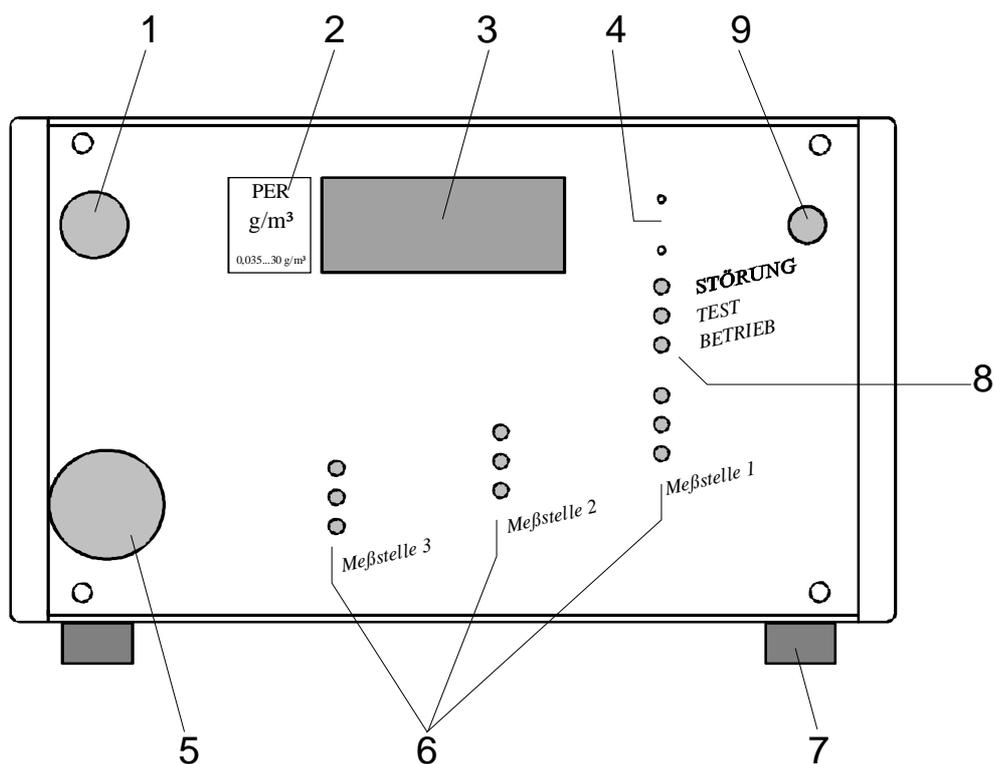

Fig. 1 Front View
At the right-hand side of the display and above the test indicator light two switches are to be found behind two small bores in the front plate. These switches may be activated with a simple slim screwdriver or with a similar tool (Fig. 1, item 4) in order to set for instance exact local time and calendar date.